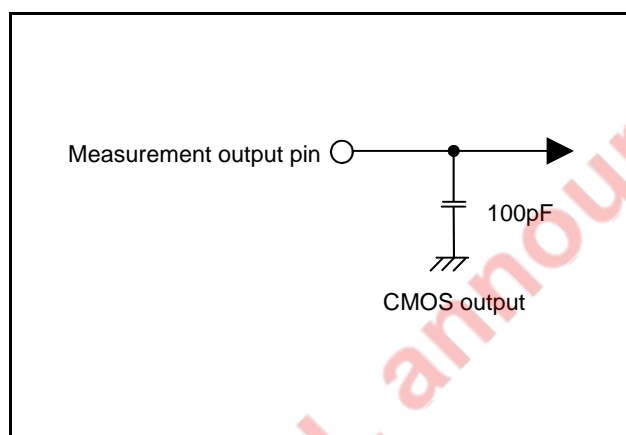

Fig 82. Circuit for measuring output switching characteristics (1)
| t WH (SCLK1)t WH (SCLK3)         | Serial I/O1, serial I/O3clock output "H" pulsewidth  | Fig.82          | $4.5 \leq V_{CC} \leq 5.5$ V | tc(SCLK1)/2-30, tc(SCLK3)/2-30 |      | ns   |
| t WL (SCLK1)t WL (SCLK3)         | Serial I/O1, serial I/O3clock output "L" pulsewidth  | Fig.82          | $4.5 \leq V_{CC} \leq 5.5$ V | tc(SCLK1)/2-30, tc(SCLK3)/2-30 |      | ns   |
| t d (SCLK1-TxD1)t d (SCLK3-TxD3) | Serial I/O1, serial I/O3output delay time (1) | Fig.82          | $4.5 \leq V_{CC} \leq 5.5$ V |                                | 140  | ns   |
| t v (SCLK1-TxD1)t v (SCLK3-TxD3) | Serial I/O1, serial I/O3output valid time (1) | Fig.82          | $4.5 \leq V_{CC} \leq 5.5$ V | -30                            |      | ns   |
| t r (SCLK1)t r (SCLK3)           | Serial I/O1, serial I/O3rise time of clockoutput     | Fig.82          | $4.5 \leq V_{CC} \leq 5.5$ V |                                | 30   | ns   |
| t f (SCLK1)t f (SCLK3)           | Serial I/O1, serial I/O3fall time of clock output        | Fig.82          | $4.5 \leq V_{CC} \leq 5.5$ V |                                | 30   | ns   |
| t WH (SCLK2)                                    | Serial I/O2clock output "H" pulsewidth               | Fig.82          | $4.5 \leq V_{CC} \leq 5.5$ V | tc(SCLK2)/2-160                |      | ns   |
| t WL (SCLK2)                                    | Serial I/O2clock output "L" pulsewidth               | Fig.82          | $4.5 \leq V_{CC} \leq 5.5$ V | tc(SCLK2)/2-160                |      | ns   |
| t d (SCLK2-SOUT2)                               | Serial I/O2output delay time                             | Fig.82          | $4.5 \leq V_{CC} \leq 5.5$ V |                                | 200  | ns   |
| t v (SCLK2-SOUT2)                               | Serial I/O2output valid time                             | Fig.82          | $4.5 \leq V_{CC} \leq 5.5$ V |                                | 0    | ns   |
| $t_f(\text{SCLK2})$ | Serial I/O2 fall time of clock output   | Fig.82          | $4.5 \leq V_{CC} \leq 5.5$ V |      | 30   | ns   |
| $t_r(\text{CMOS})$  | CMOS rise time of output (1) | Fig.82          | $4.5 \leq V_{CC} \leq 5.5$ V | 10   | 30   | ns   |
| $t_f(\text{CMOS})$  | CMOS fall time of output (1) | Fig.82          | $4.5 \leq V_{CC} \leq 5.5$ V | 10   | 30   | ns   |